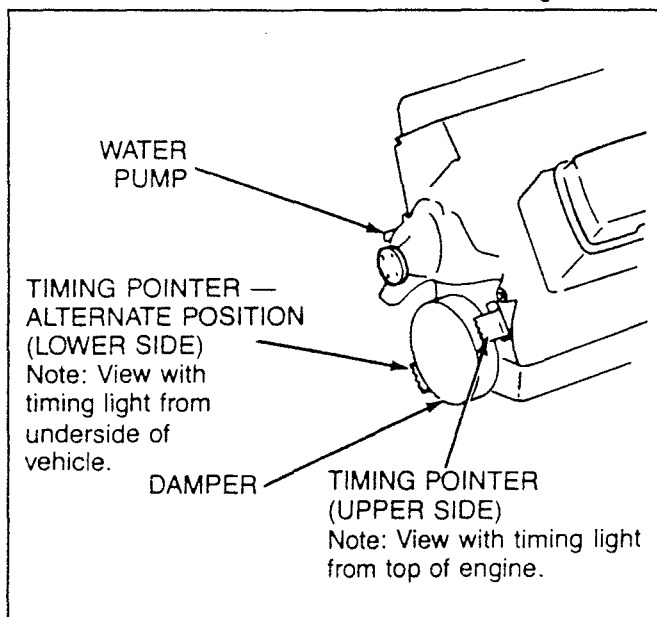

Figure 7-39 — Timing Mark — Typical
4. Start the engine and aim the timing light at the timing mark. (See Figure 7-39.) The line on the balancer or pulley will line up at the timing mark. If a change is necessary, loosen the distributor hold-down clamp bolt at the base of the distributor. While observing the mark